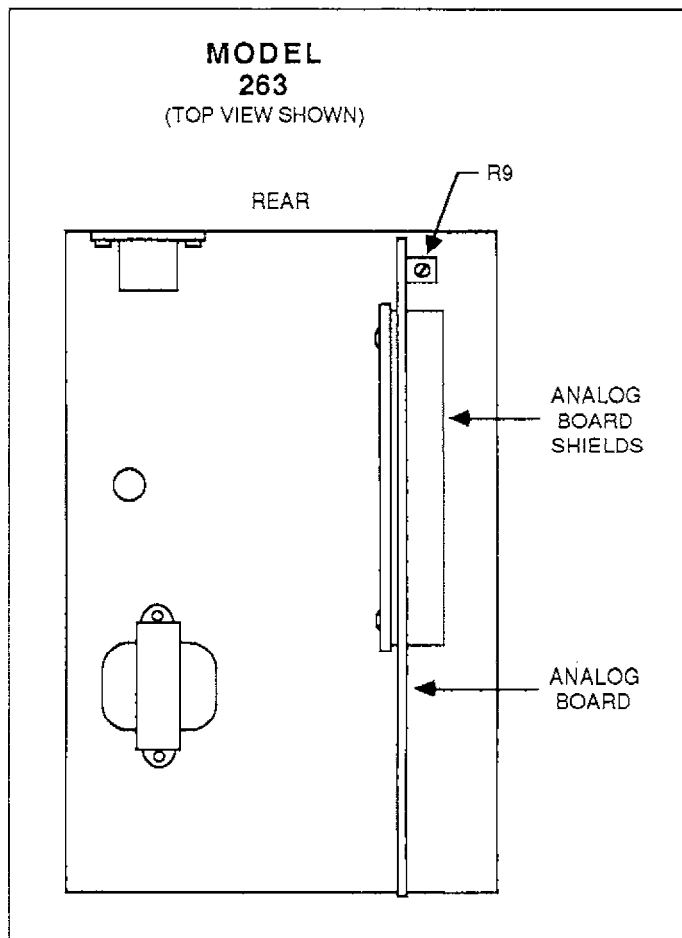

Figure 8-5. Offset Voltage Adjust
6. Remove the top cover of the Model 263 and adjust R9 (see Figure 8-5) for a reading of 0.00000V \pm 20 μ V.